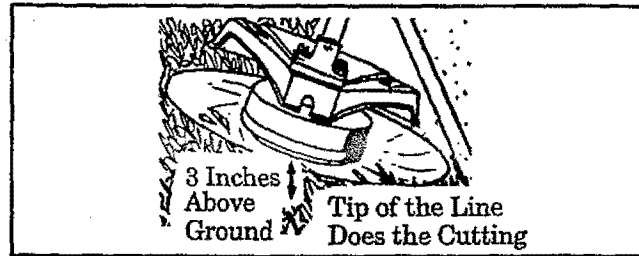

Figure 11
1. **TRIMMING** - Figure 11 . Hold bottom of the trimmer head about 3 inches above ground and at an angle. Allow only the tip of the line to make contact. Do not force trimmer line into work area.